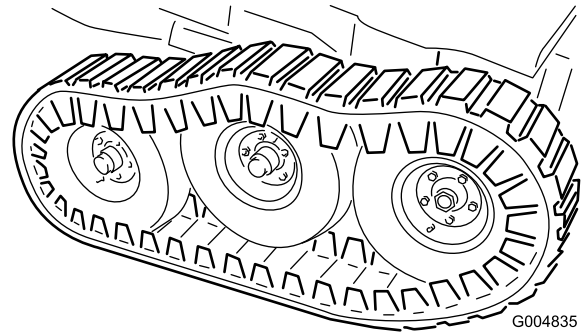

Figure 125
41. Lower the floor jack until the front wheels support the frame. Install the flat washers (1/2 inch) and locknuts on the bogie pivot stud (Figure 125) and torque to 102 N·m (75 ft·lb).